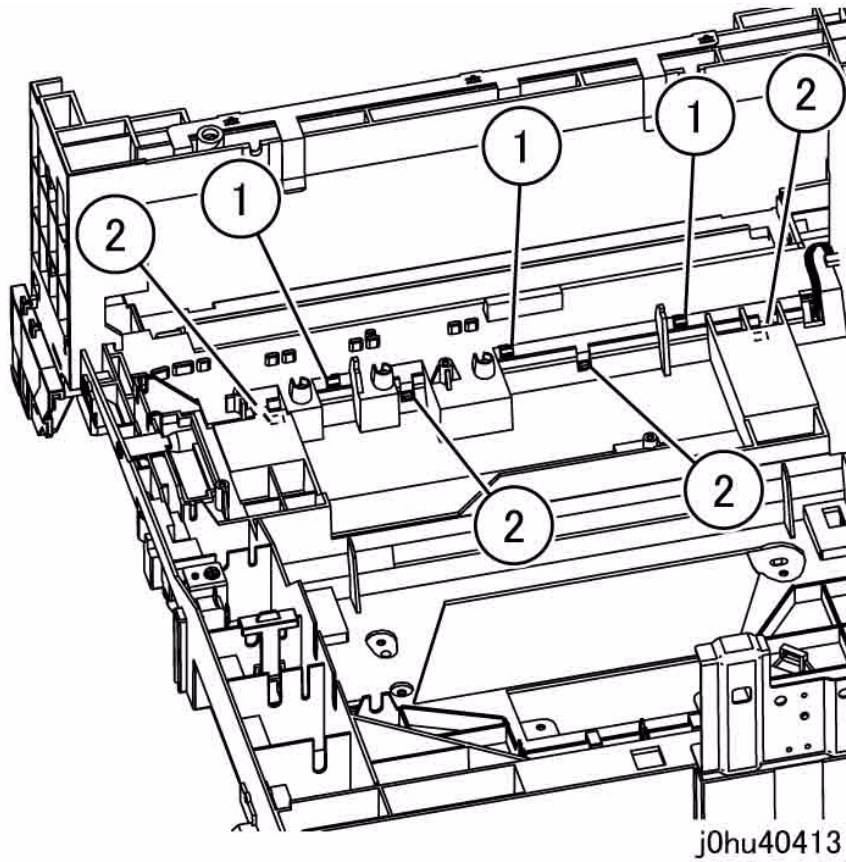

Figure 1 Erase Lamp Tabs
6. Release the Erase Lamp tabs (7) (Figure 1).